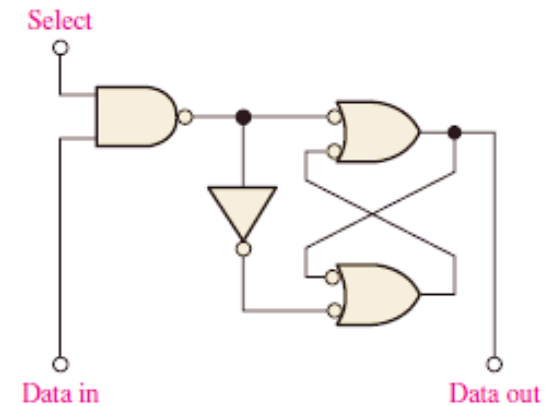

FIGURE 2 A typical SRAM latch memory cell.
- ❑ Figure 2 shows a basic SRAM latch memory cell. The cell is selected by an active level on the Select line and a data bit (1 or 0) is written into the cell by placing it on the Data in line. A data bit is read by taking it off the Data out line.